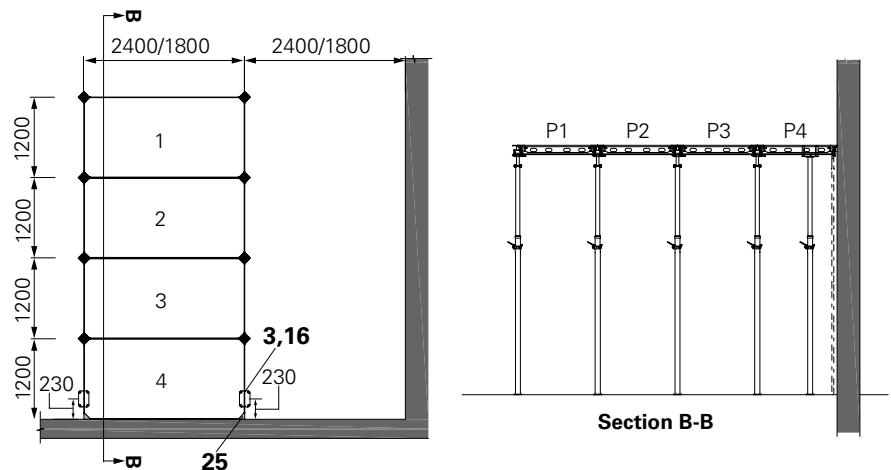

Fig. A6.09
5. Support the panel 4 at both ends (shorter direction) with prop (**3**) and crosshead ADC (**16**). (Fig. A6.09)